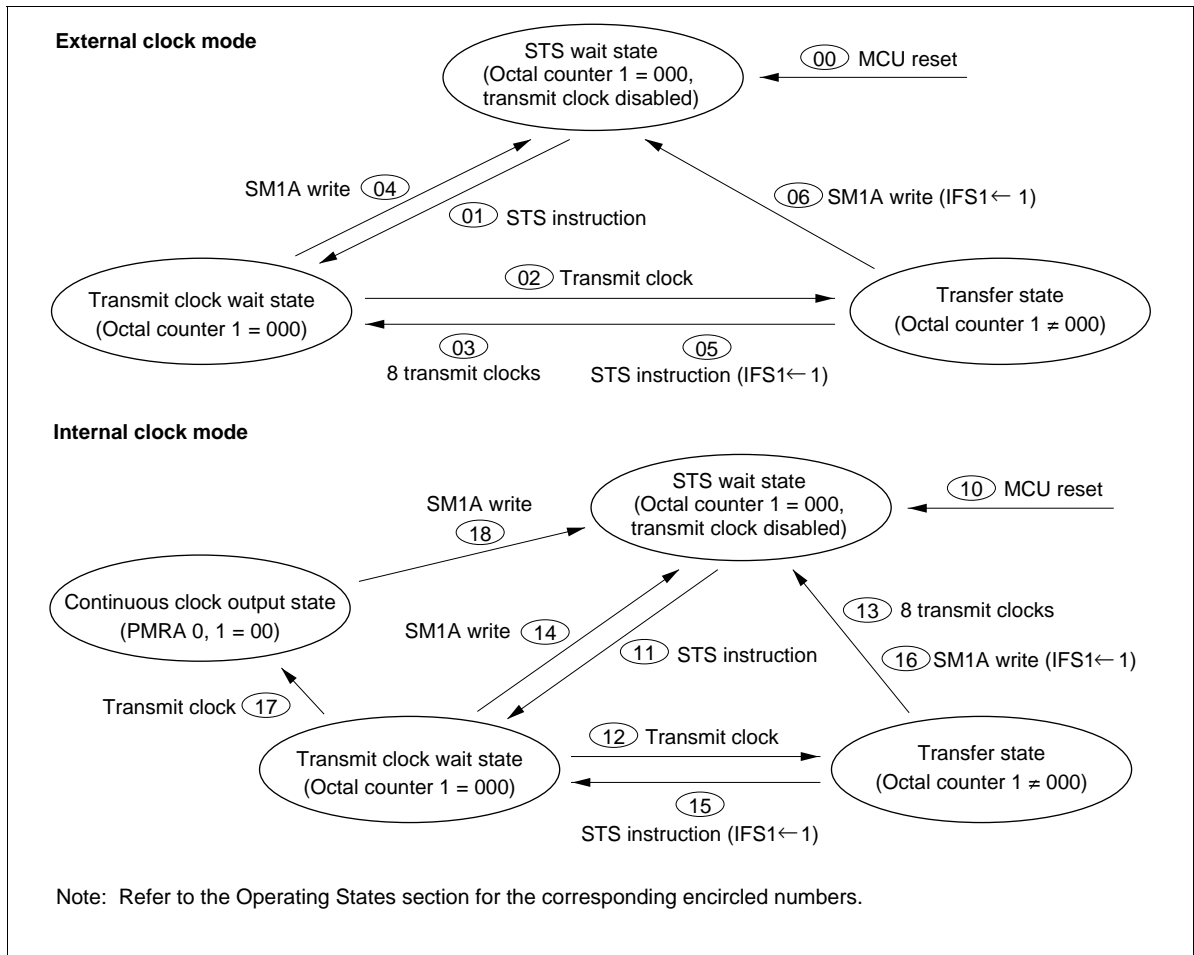

Figure 59 Serial Interface State Transitions
Operating States: The serial interface has the operating states shown in figure 59 in external clock mode and internal clock mode.
- STS wait state: The serial interface enters STS wait state by MCU reset (00, 10 in figure 59). In STS wait state, the serial interface is initialized and the transmit clock is ignored. If the STS instruction is then executed (01, 11), the serial interface enters transmit clock wait state.